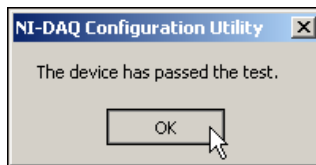

Figure 1-15. Self-Test Result for the NI 5620 IF Digitizer Module
10. The NI-DAQ Configuration Utility dialog appears as shown in Figure 1-15. Click **OK** to return to the Configuring Device window and continue with the NI 5620 test panel.